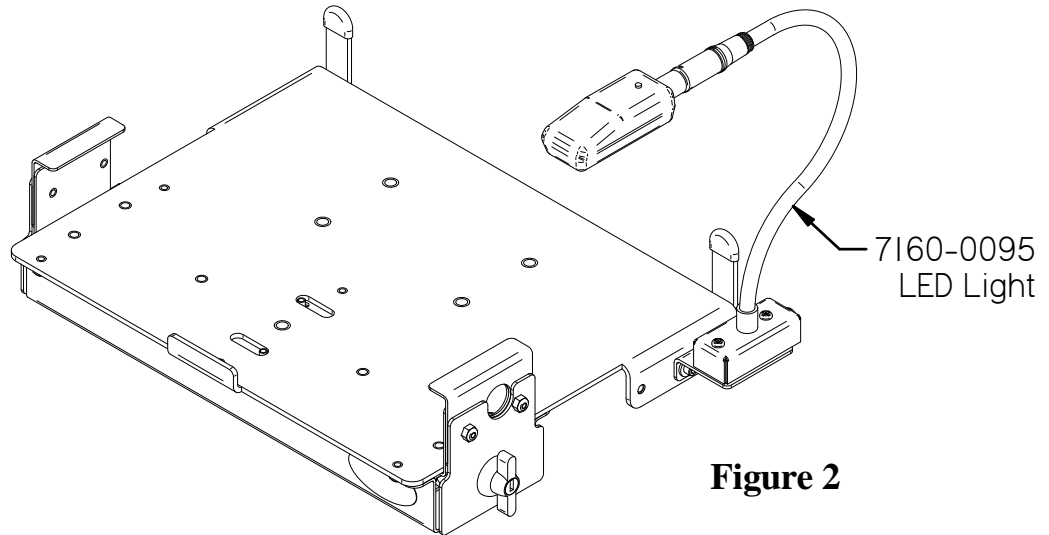

Figure 2
- 1 The **LED Light 7160-0095** will attach directly to either side of the cradle with the machine screws and flat washers provided in the hardware bag that comes with the light. See Figure 2.